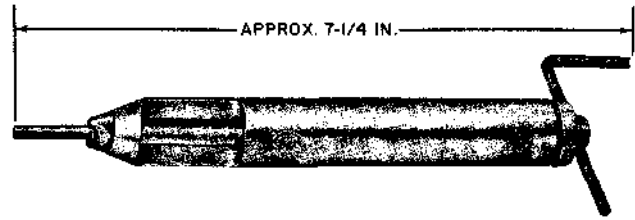

Fig. 32—HELI-COIL Corp Inserting Tool
2.34 HELI-COIL® Corp Inserting Tool: The HELI-COIL Corp inserting tool (Fig. 32) is used for HELI-COIL inserts. In ordering, specify number of tool desired. This tool is used on the KS-13835 reader, and the inserts (Table A) must be ordered separately.